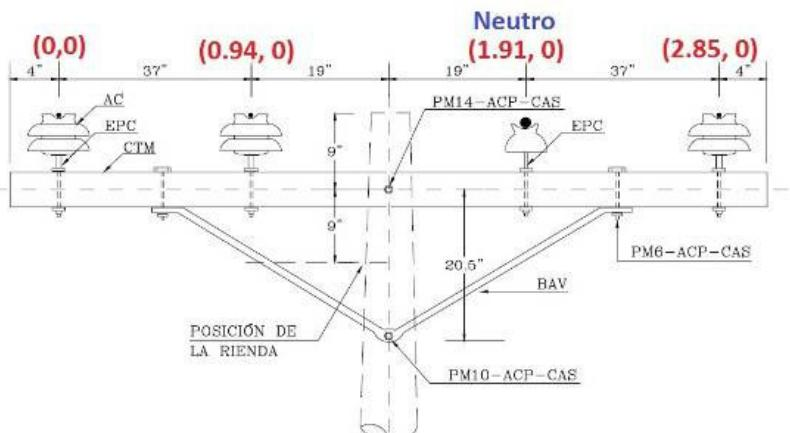

Figure 4
8. Choose from the menu. Option 8 selects the structure of Figure 4.